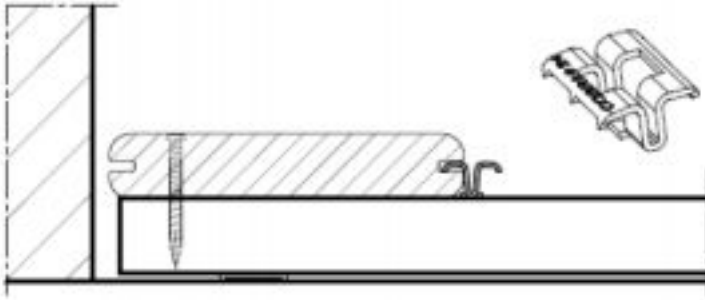

Figure 1
3. Insert NexGEN fasteners into the groove channel of the 1st board at every support joist (Figure 1)
4. Position the 2nd board against the fasteners. Slightly lift the outer edge of the 2nd board to ease the assembly (Figure 1). NexGEN fasteners allow 5-6mm board spacing.
Figure 1 bis